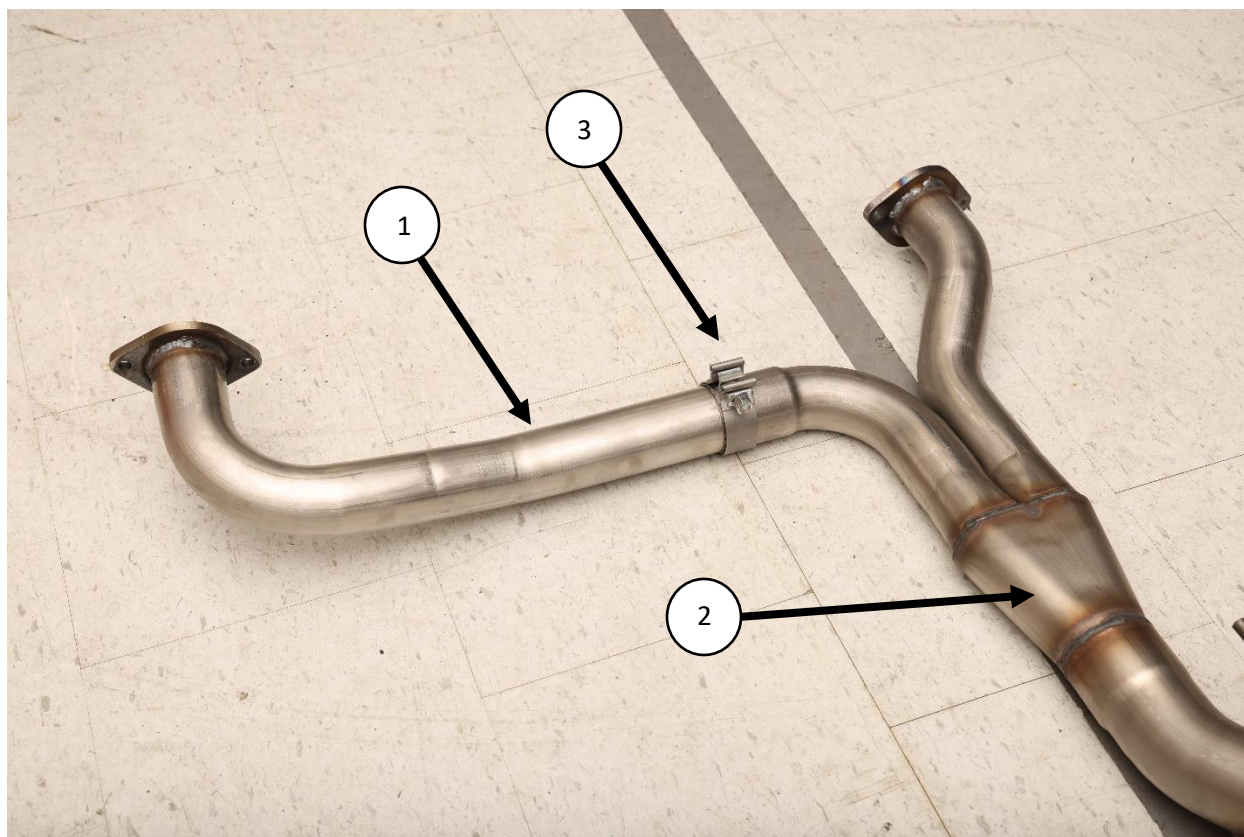

Figure.3
2. Install a 2.5" band clamp **(3)** on to the expanded end of the Left **Front** inlet pipe **(1)**. **Fig.3**
3. Install the Left Front Inlet pipe **(3)** into the expended end of the Muffler assembly inlet pipe **(2)**. **Fig.3**